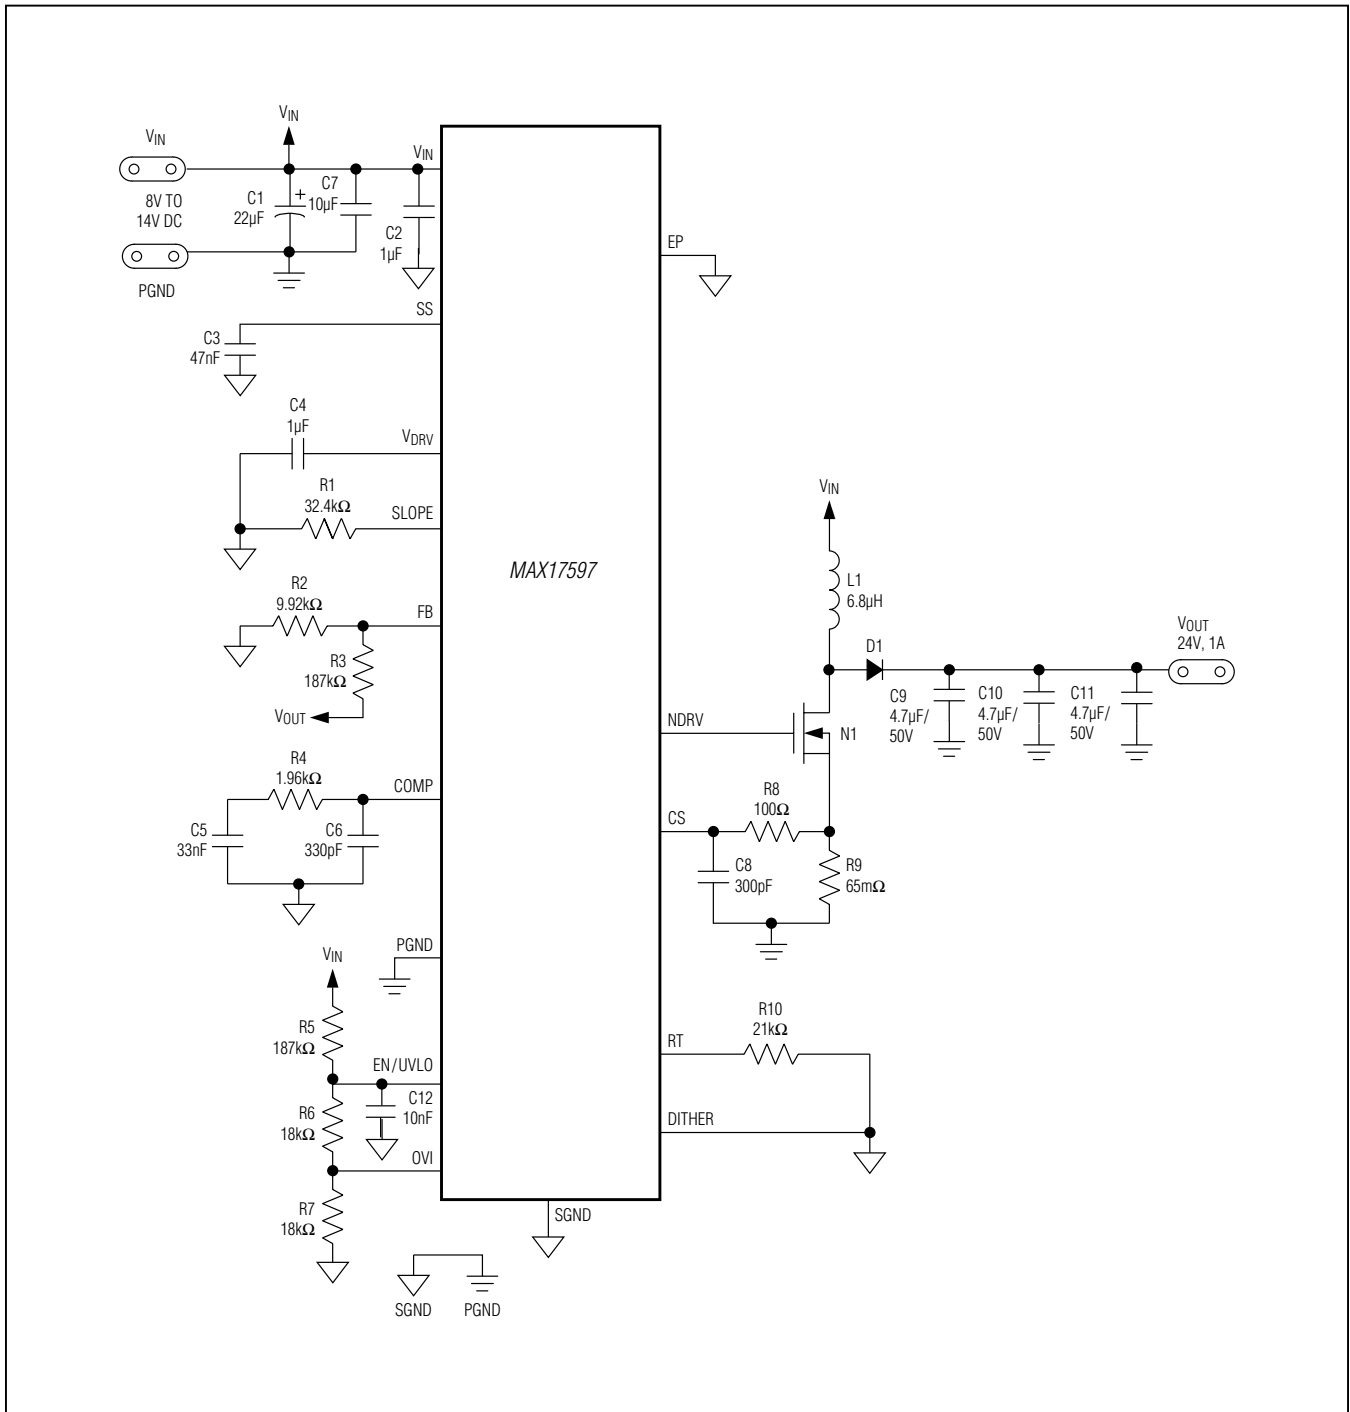

Figure 11. MAX17597 Typical Application Circuit (Nonsynchronous Boost Converter)
where  $t_{SS}$  is expressed in ms. This equation is directly applicable to the boost converter application circuit of Figure 11. For optoisolated converters, the soft-start period is approximately equal to 30% of  $t_{SS}$  when the
8. The boost converter application circuit of Figure 11 for the MAX17597 uses this approach.